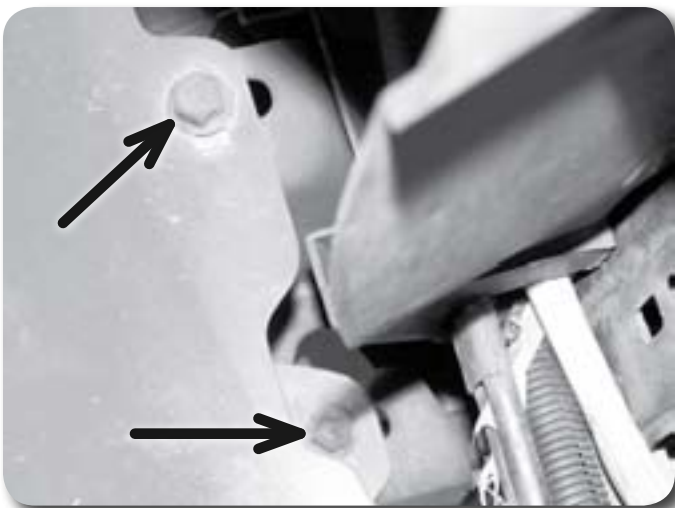
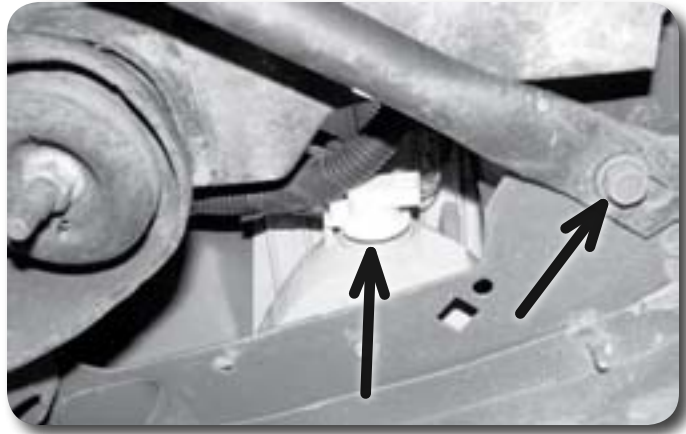

Figure 2
Figure 3
5. Remove the front bumper by removing the four bolts mounting the bumper to the frame horns Figure 2 and the bolt (one on each side) mounting the bumper to the outside bumper supports Figure 3. Disconnect the bumper turn signal lights. Remove the bumper from the vehicle. Save hardware.